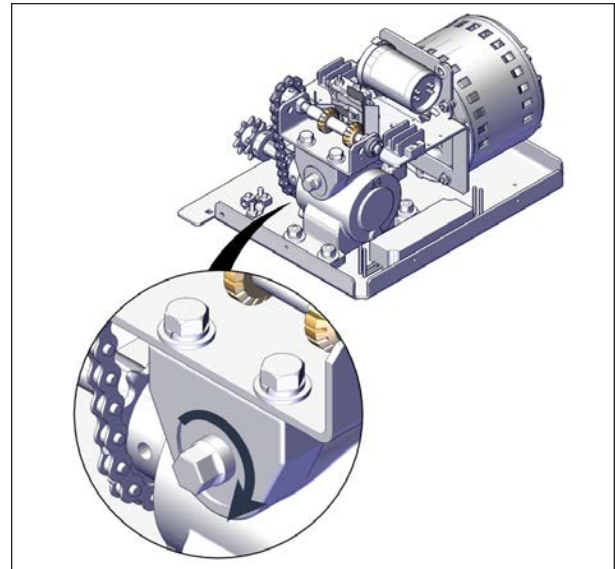

FIGURE 69: OPERATOR EXTENSION SHAFT
3. Use 1/2" (13 mm) hexagonal socket wrench to raise or lower the spa cover by turning the operator extension shaft, see Figure 69.